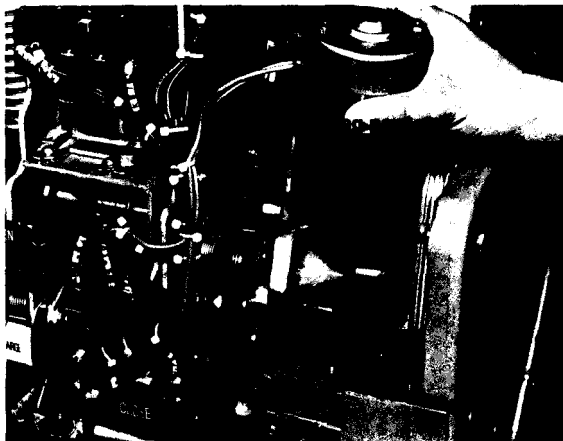

FIG. 7
11. Place the motor in the breaker with its driving pawl facing the front of the breaker (between the ratchet assembly and the pawl stop) see figure 7. Mount the motor by hand tightening the bottom allen head screw with the short spacer in position. Tighten the top two mounting bolts and spacers with the smaller diameter shoulders of the spacers properly seated in the countersunk sections of their mounting holes.